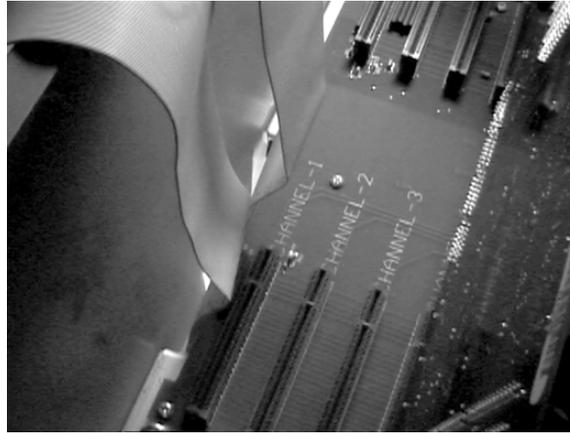

Figure 4.18: Routing of the SCSI Ribbon Cables
1. Route one of the SCSI ribbon cables (if you constructed your own ribbon cable, it is the one with five connectors) from the Hard Drive Bay Unit up through the narrow hole between the chassis wall and slot 1 in the GlobeCaster (Figure 4.18). Be sure to feed the cables from the bottom. Only one connector (the one at the end without the active terminator) should go through the hole in the chassis.